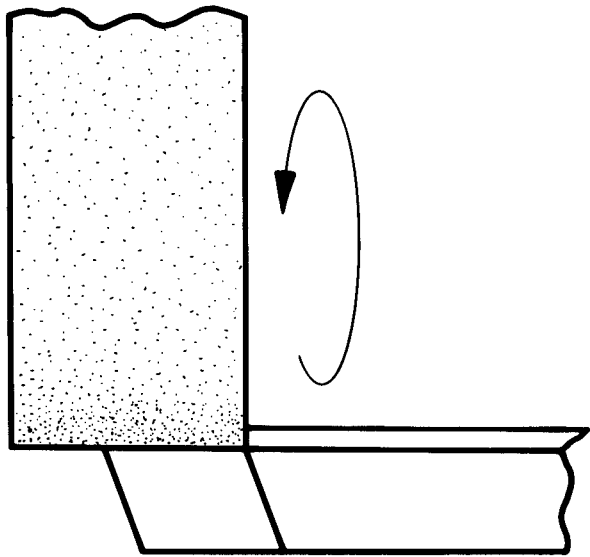

FIGURE 9.53 Grinding the side-rake angle.
6. The last angle ground is the side rake angle. To grind the side rake, hold the toolbit shank approximately 45° downward to the axis of the wheel and the bottom inward 14° (Fig. 9.53). When grinding the side rake, be sure that the top of the cut-